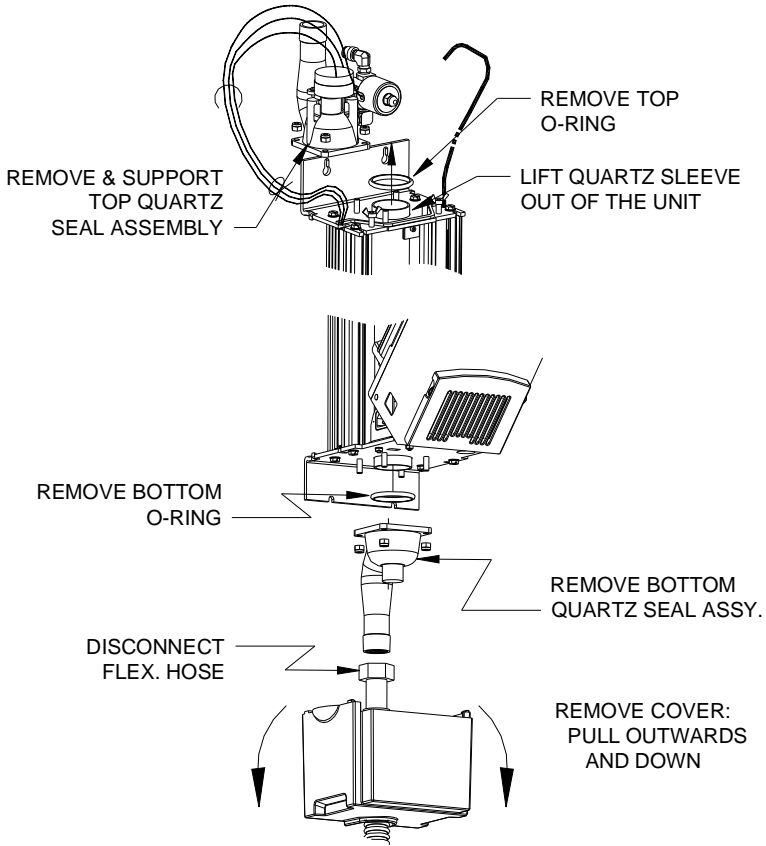

Figure 4D
**Step 4:** If the quartz is still not clean, it requires replacement. This is done by removing the bottom quartz seal assembly (see Figure 4D).
**Step 9:** Replace the bottom quartz seal assembly (see Fig. 4D) by installing the four nuts in an alternating pattern (top left, bottom right, bottom left, then top right) Ensure that the connection port is at the backside of the unit